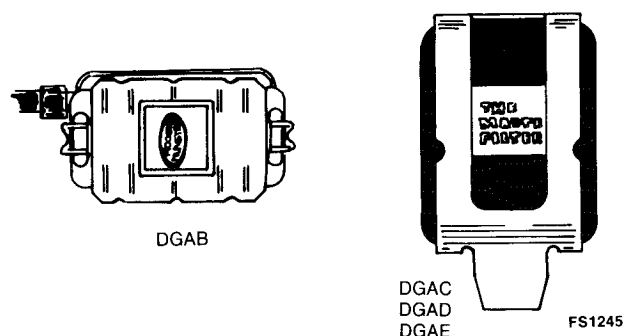

FIGURE 5-4. FUEL FILTERS
3. Remove filter retaining clip or clips from fuel filter (see Figure 5-4).